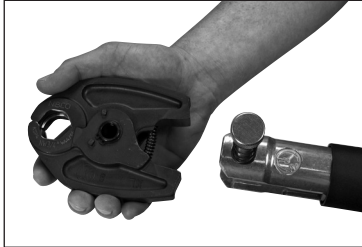

Figure 5 — Inserting the NIBCO® Press System jaw
4. Select the jaw set that corresponds to the size of the joint to be crimped and insert the jaw set into the pressing tool (*Figure 5*).